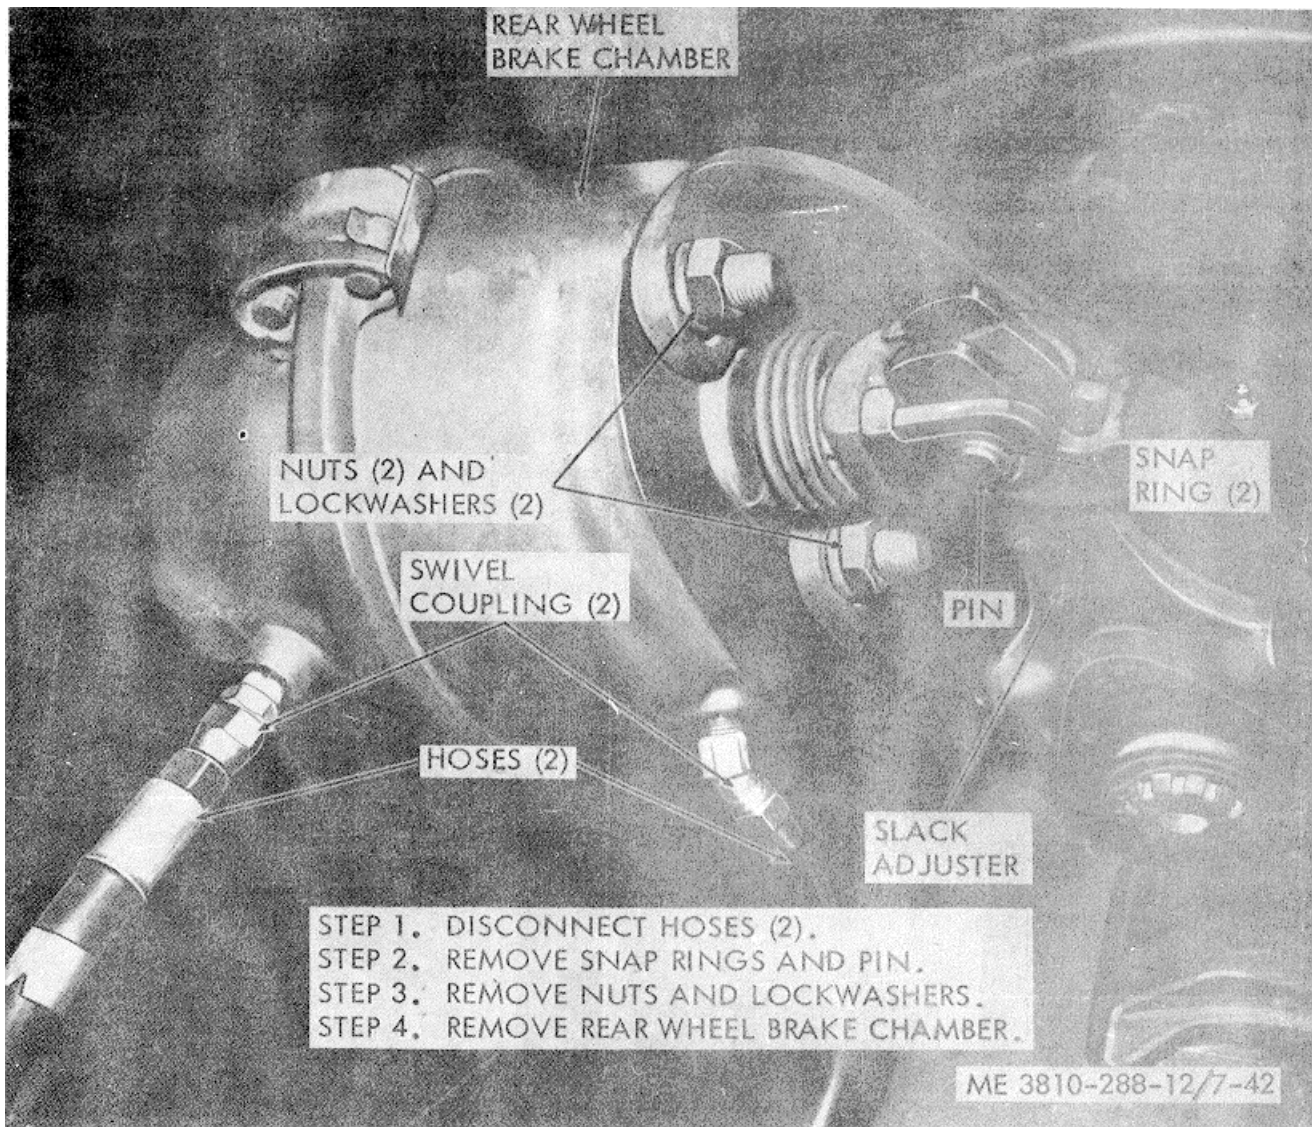

Figure 7-42. Rear wheel brake chamber, removal and replacement.
(2) *Installation.* Refer to figure 7-42 and install the rear wheel brake chamber.